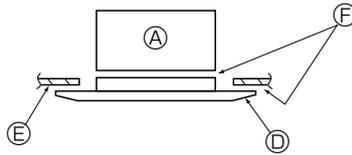

Fig. 10-7
- \* Make sure that there are no gaps between the main unit and the panel or the panel and the ceiling. (Fig. 10-7)